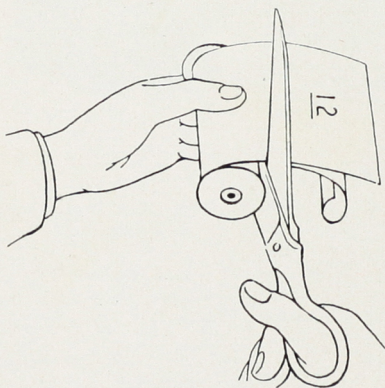

FIG. 1.
2. Unroll the film and cut the exposures apart as shown in Fig. 1.